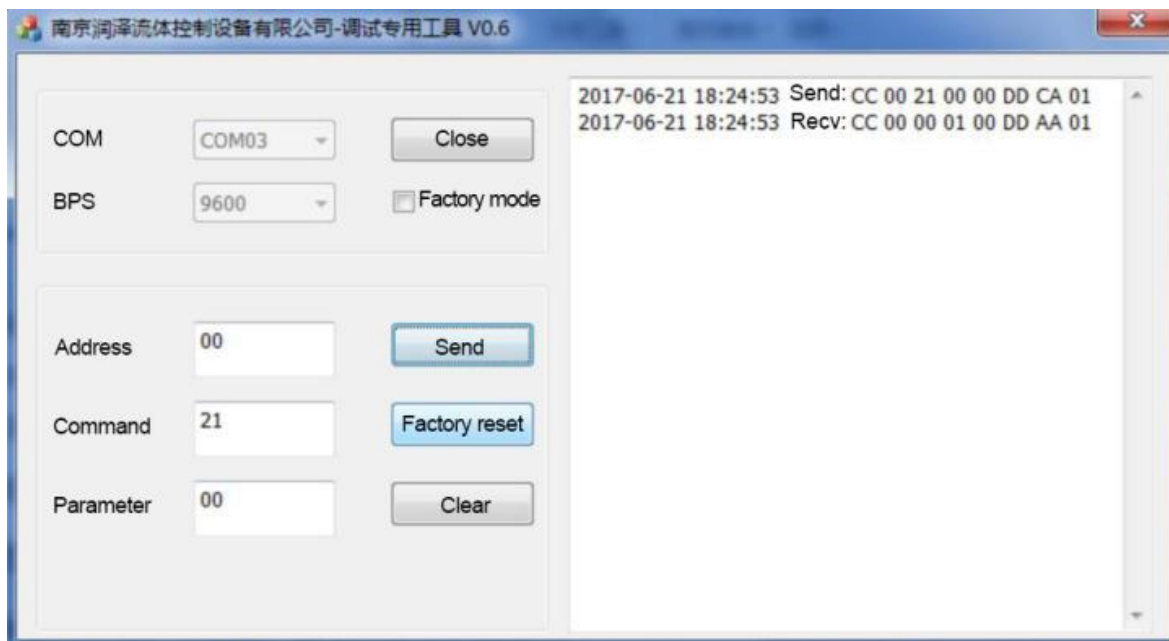

Figure 4
3. Cancel the chosen "Factory command" (as Figure 4)
4. Inquiry set speed, input speed setting code "21" into "Command" and input "00" into "Parameter", click "send", if received commands as Figure 4, settings are correct.